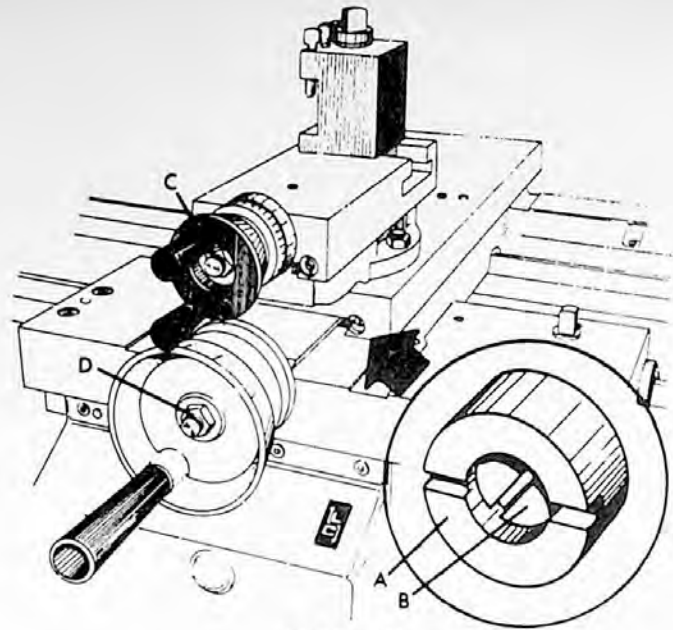

FIGURE 24
2. Loosen gib nut (A, figure 24).
3. Turn adjusting screw (B) until slide moves with a slight drag.